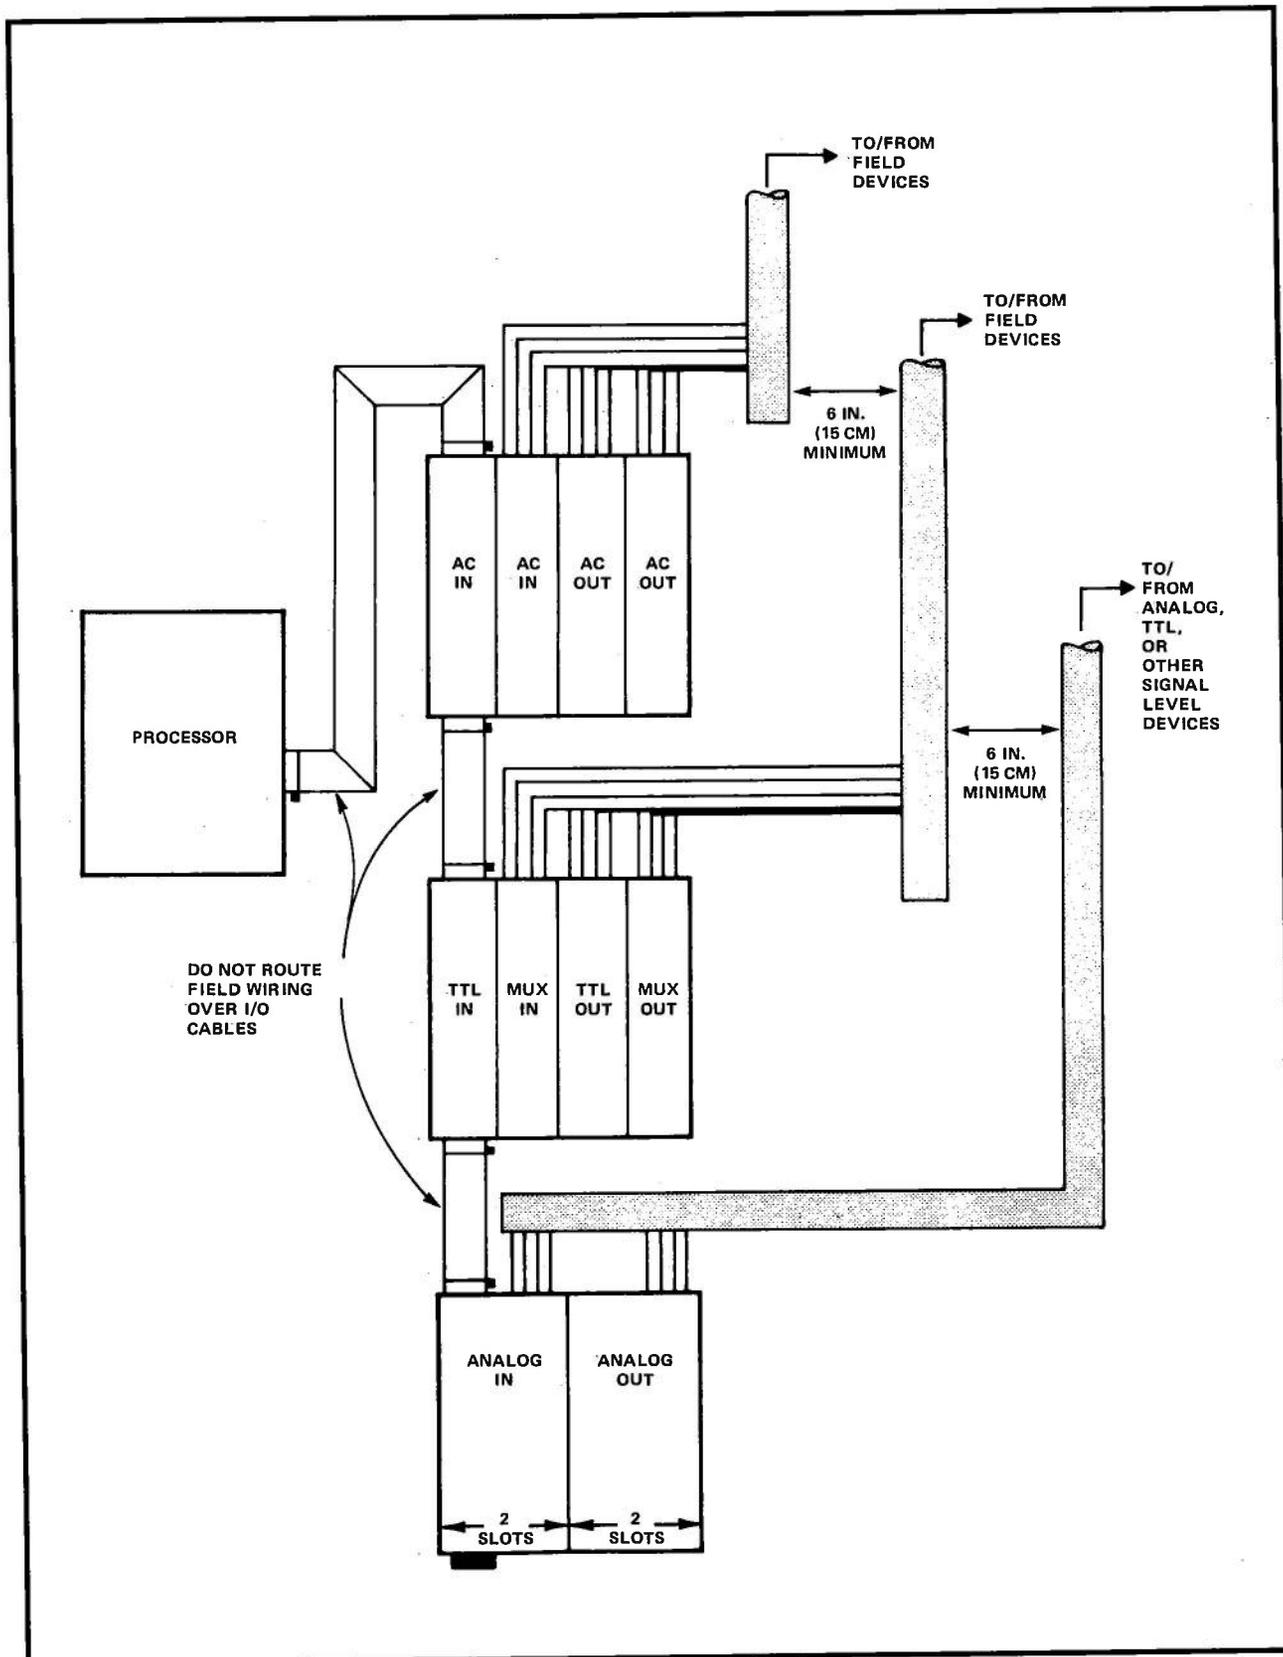

Figure 7-29. Typical Large System Layout
Typical horizontal I/O rack applications are shown in Figures 7-29 and 7-30.
**External wire routing is important to proper system operation. Do not run all levels of a-c and d-c voltage next to, or near, each other. As previously shown in Figures 7-29 and 7-30, maintain a minimum**